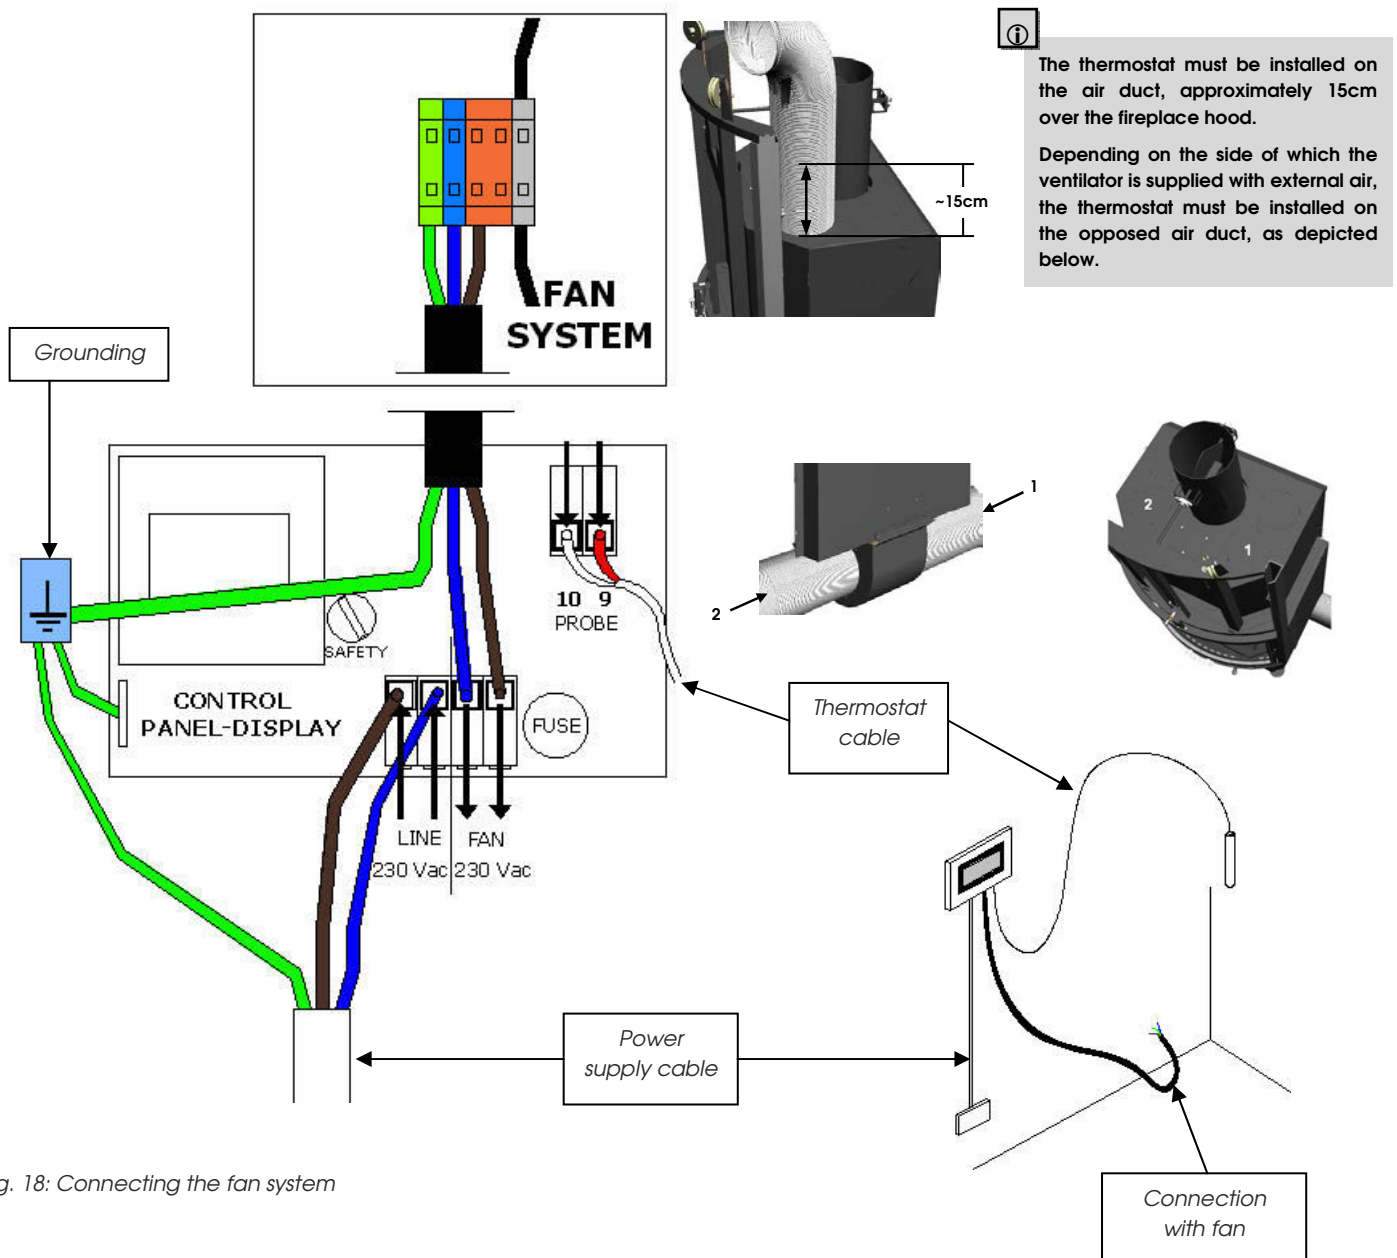

Fig. 18: Connecting the fan system
- Install the electronic control panel with the fan system (Fig. 18)